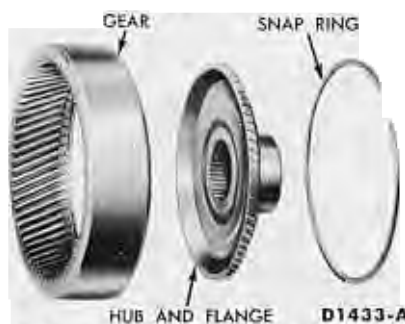

FIG. 57—Output Shaft Hub and Ring Gear
1. Remove the hub retaining snap ring (Fig. 57) from the ring gear.